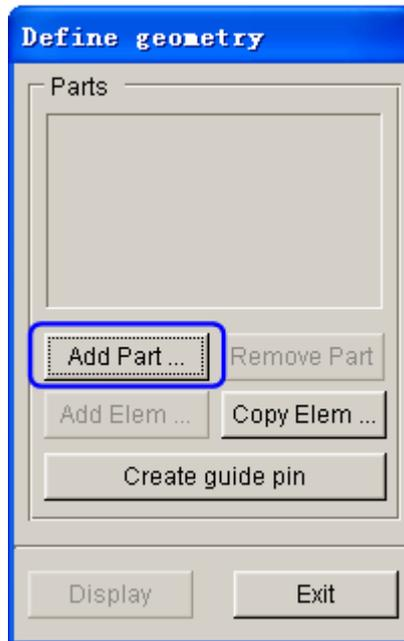

Figure 2.22 Define Geometry dialog box
5. The DEFINE GEOMETRY dialog box illustrated in Figure 2.22 is displayed. Next, click the **Add Part...** button in the dialog box.